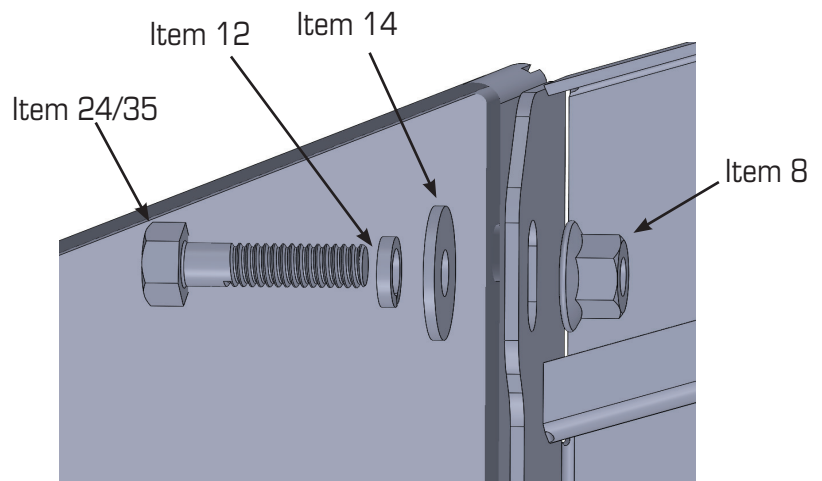

Fig. 3
4. Locate the 3 mounting holes of the Side Panel to the mounting holes on the Universal Basket and secure with Bolts (Item 24 or 35), Lock Washers (Item 12), Washers (Item 13), and Lock Nuts (Item 8) as shown in Fig. 3. Repeat for other 3 locations on opposite side.